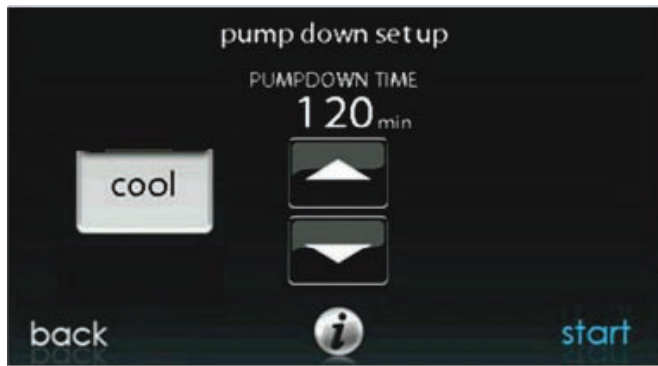

Fig. 41 – Pump Down Setup Screen
3. Pump down in COOL mode allows refrigerant to be isolated in outdoor unit. Set desired time period. Default time period for the procedure is 20 minutes. See Fig. 41.